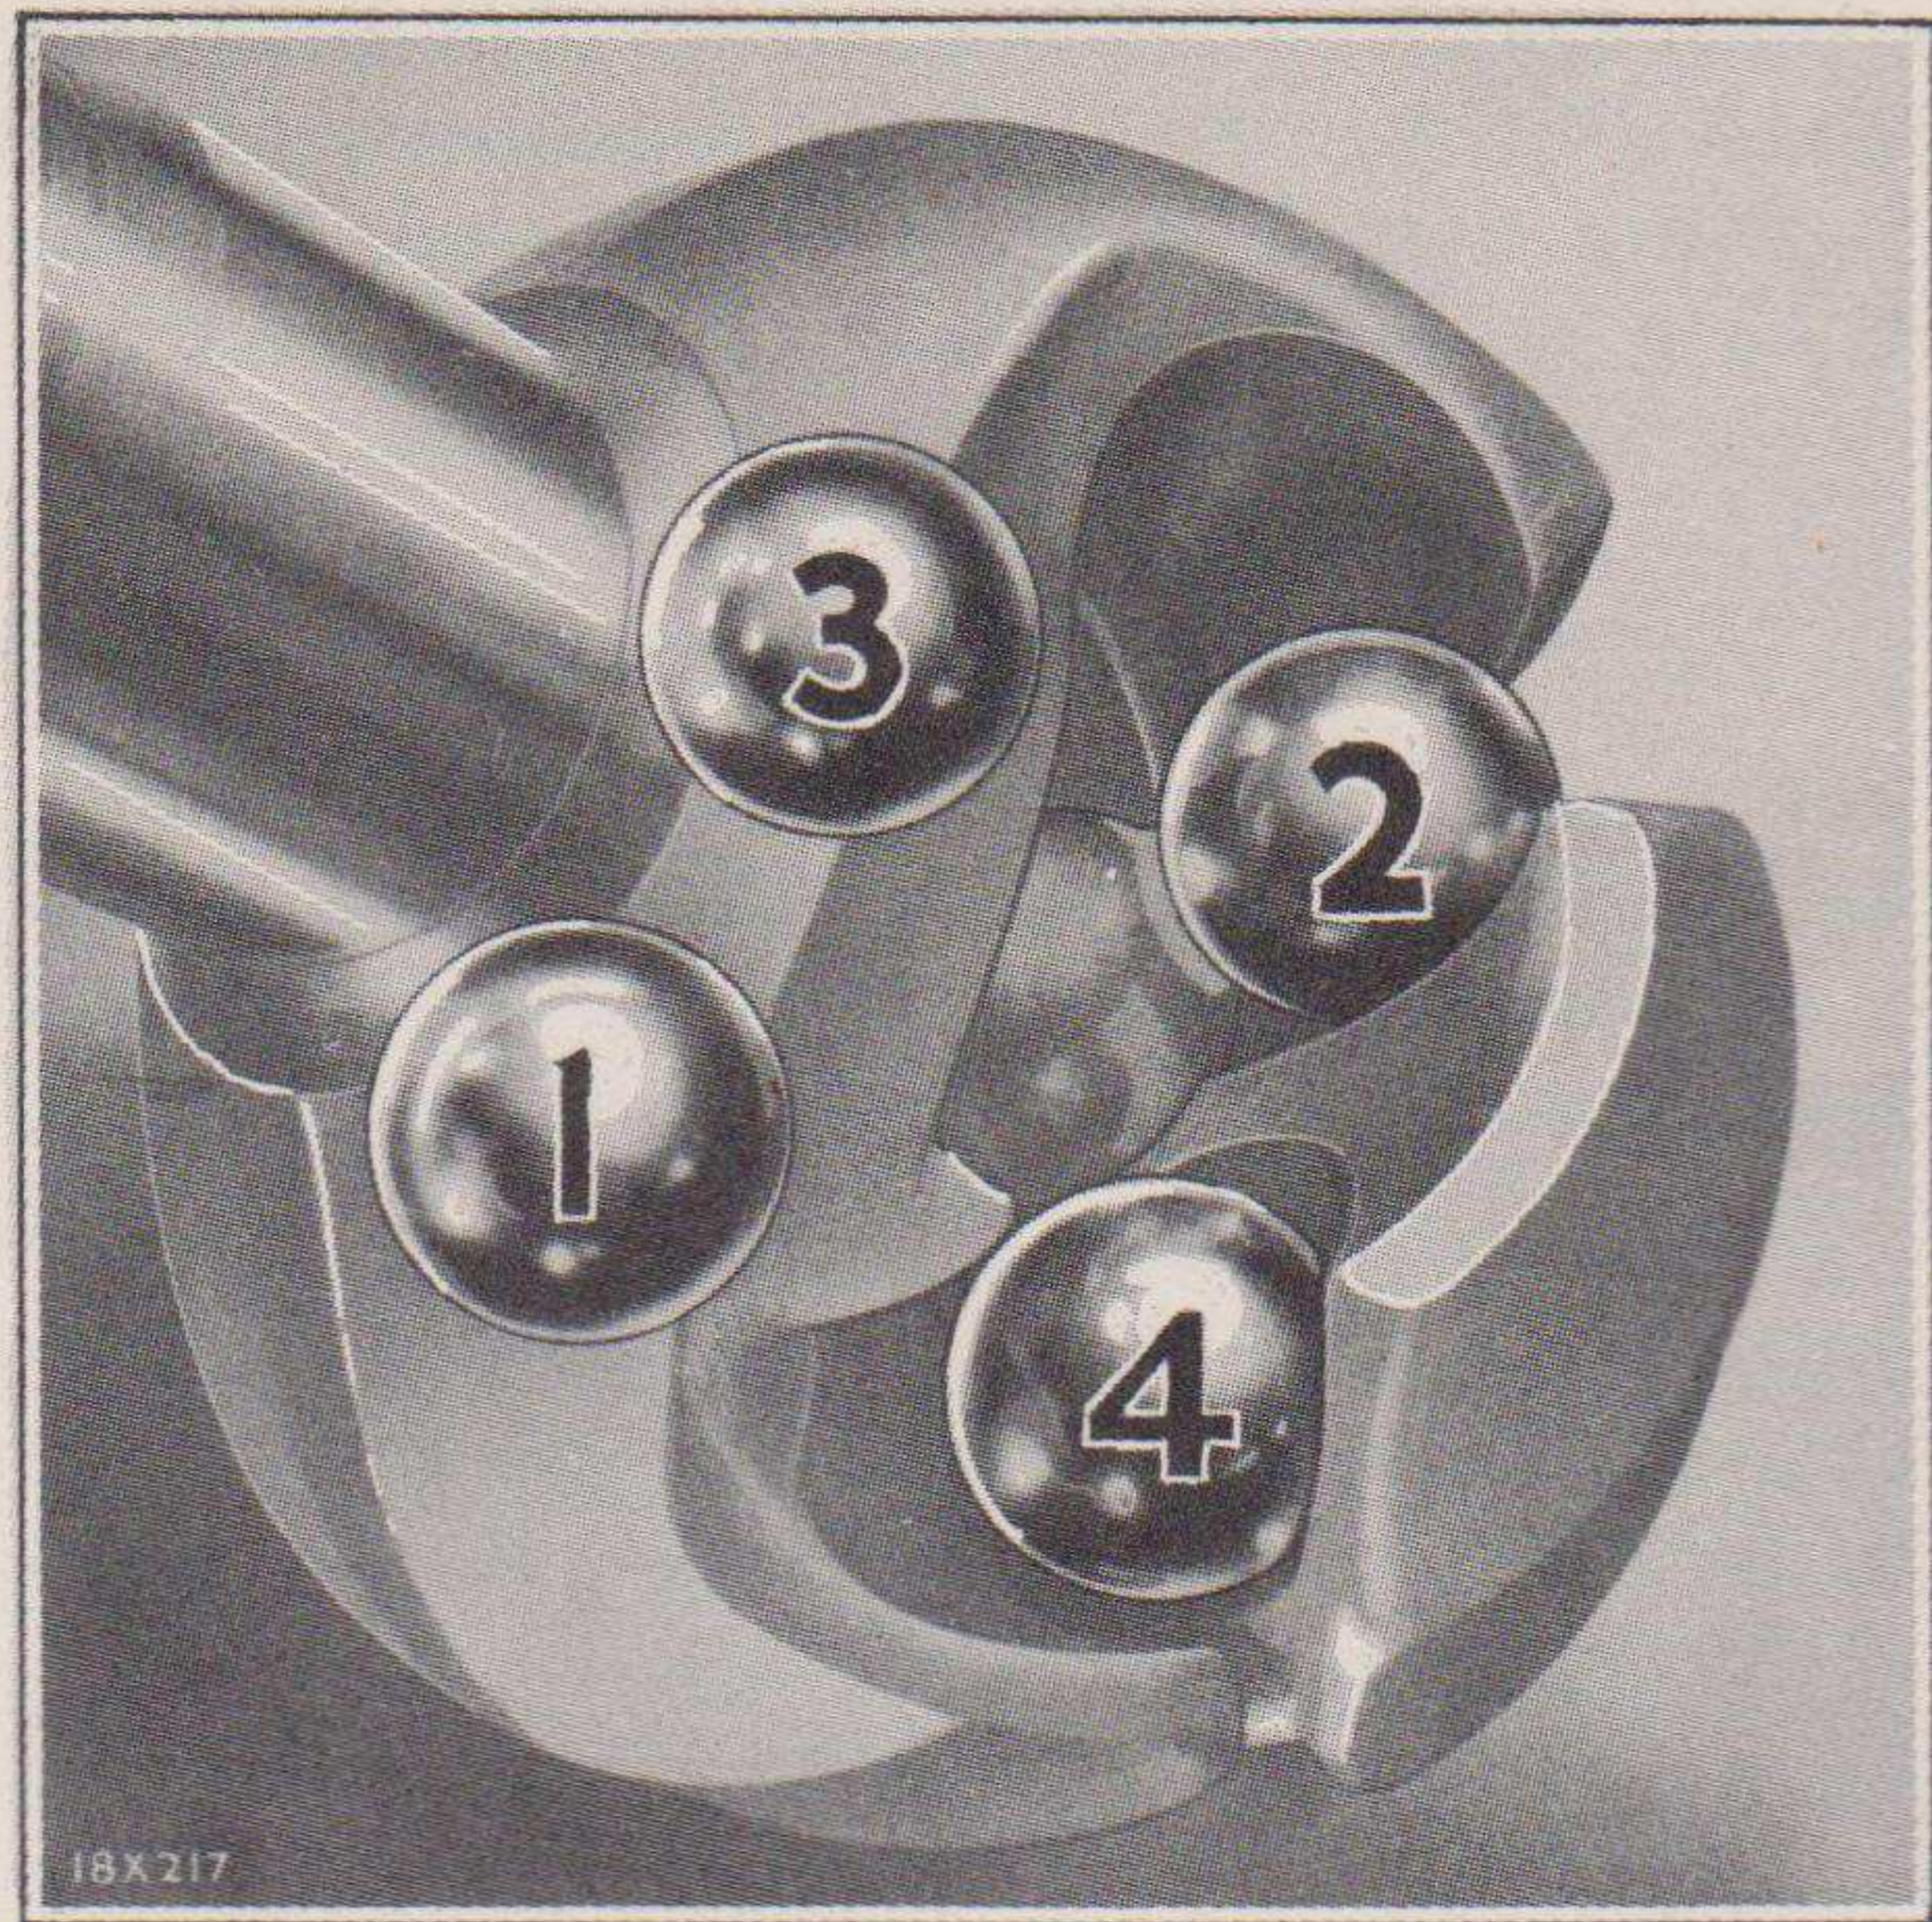

Fig. 19—Universal Drive Ball Installation Diagram
- (b) If the drive balls are of different sizes, the two largest balls should be placed diagonally across from each other, as shown at 1 and 2 or 3 and 4, Fig. 19.